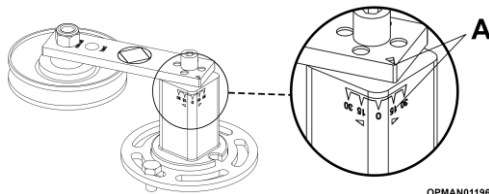

Figure 5.21
- 5.4.2.6 Turn the belt tensioner against the belt until a reading of 15 degrees is displayed; see Figure 5.21 (A).